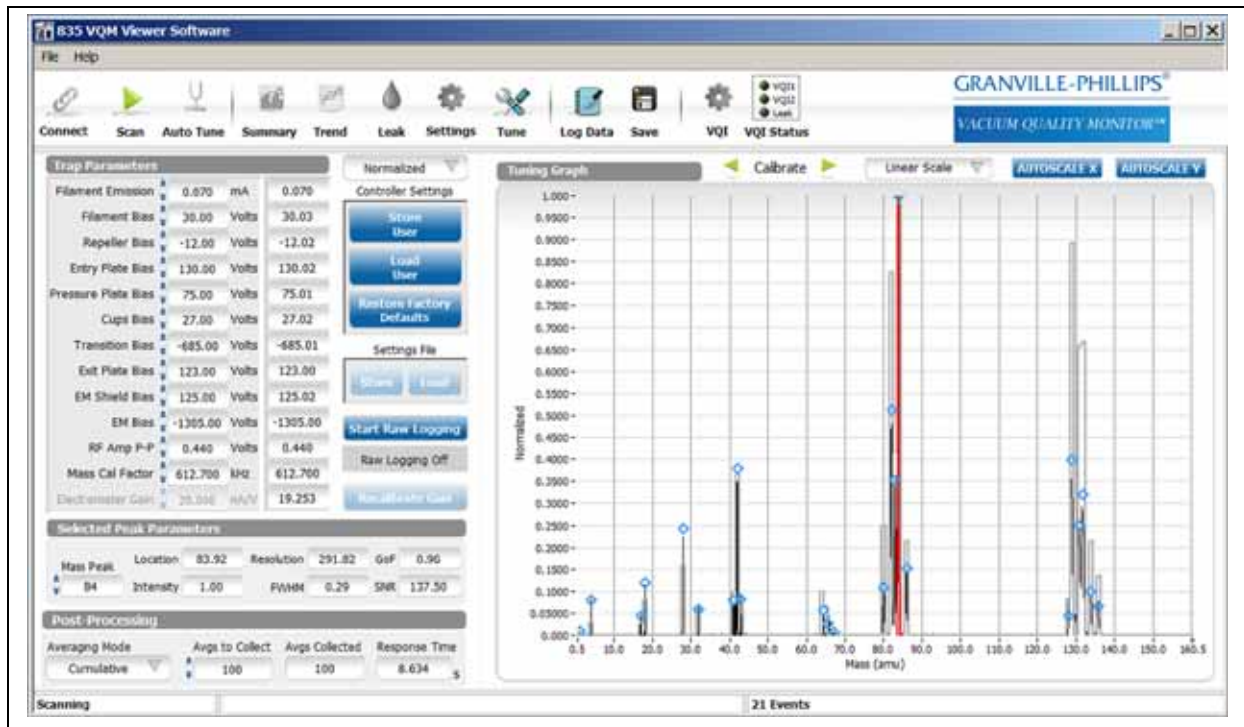

Figure 8-6 Tune Screen
2. Access the Tune screen display of the VQM Viewer Software and select the Normalized view. See Figure 8-6.